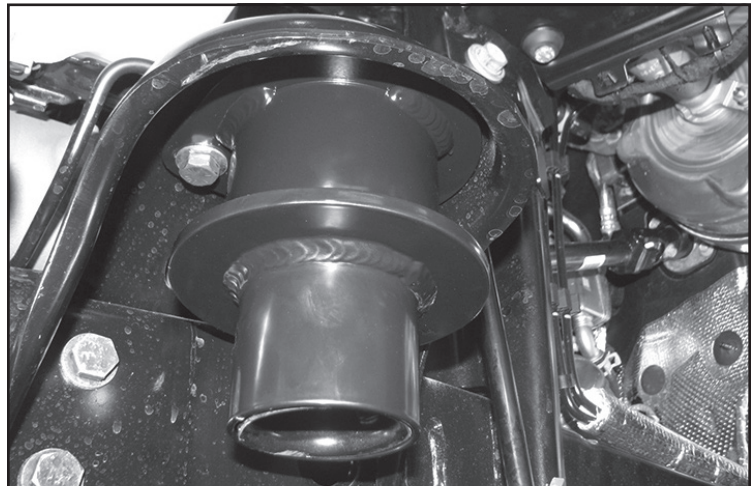

FIGURE 12 - STEP 11
11. Install FT50400BK (Front Coil Spacer) using the supplied 7/16 x 1-1/4" bolts, washers and nuts using the factory hole in the coil bucket. Torque to 83 ft-lbs Repeat on passenger side. **SEE FIGURE 12**